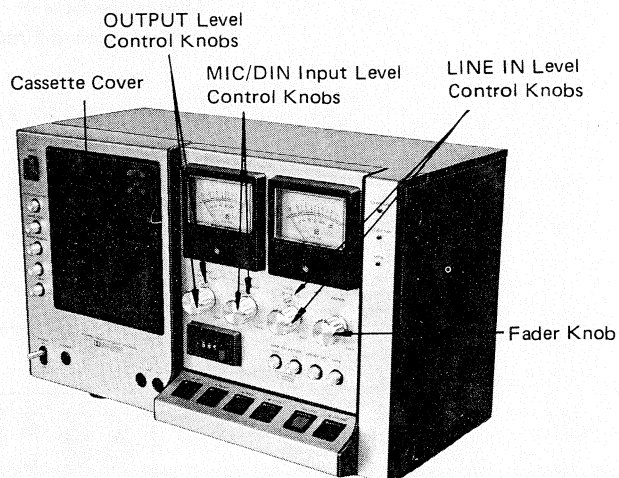

Figure 6. Location of Cover and Knobs
2. Remove the cassette cover, OUTPUT Level Control Knobs, MIC/DIN Input Level Control Knobs, LINE IN Level Control Knobs and Fader Knob. See figure 6.